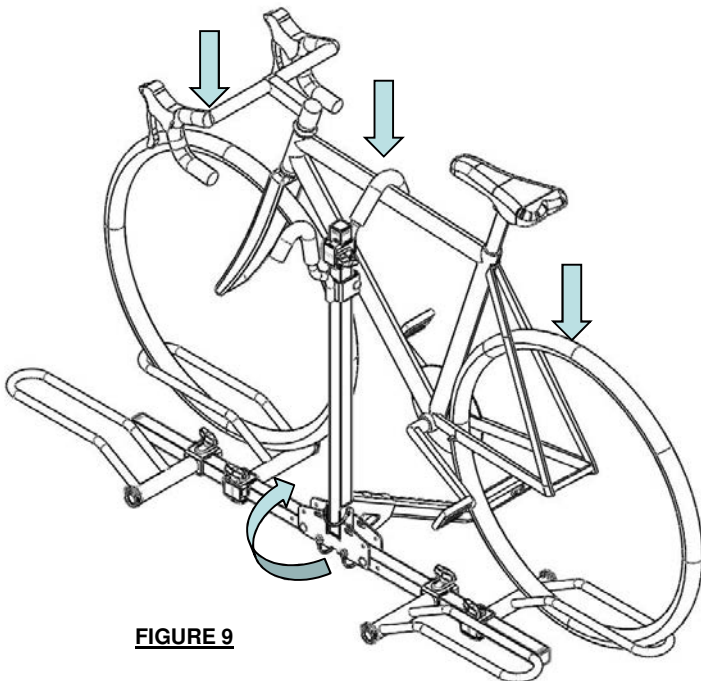

FIGURE 9
3. Rotate center tube to vertical position and lock with bail pin. Lower Frame Hook assembly down over bicycle frame as illustrated. (Fig 9)